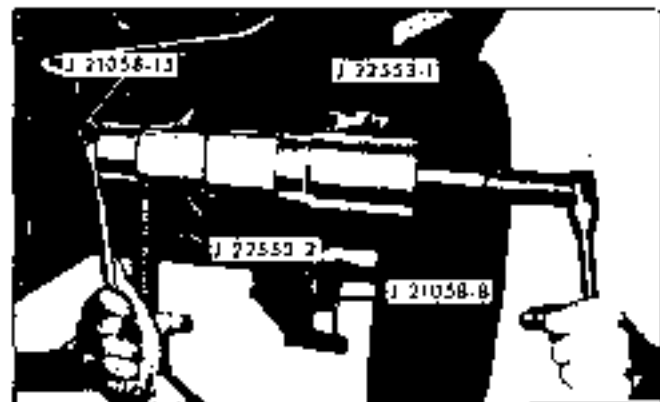

Fig. 4-3 Installing Spring Front Bushing - Firebird
g. Position installer adapter J 22553-2 over flange end of bushing. Then position puller screw J 21058-15 through installer adapter and bushing (Fig. 4-3).